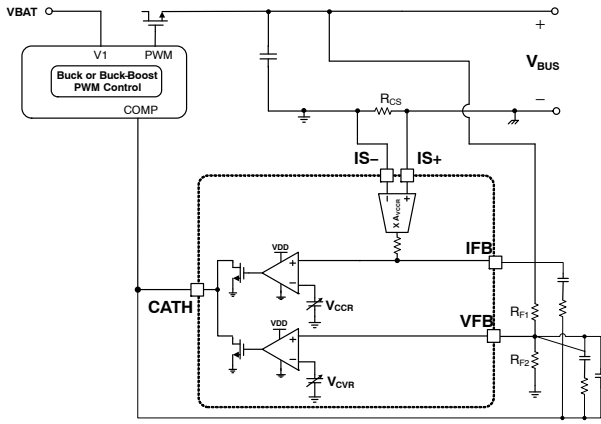

Figure 8. Voltage and Current Sensing Circuits
In order to regulate adaptive output voltages, the constant voltage control (CV) is implemented. The output voltage is sensed through an external resistor divider. The sensed output voltage is connected to the VFB pin, and it is input the non-inverting input terminal of the internal operational amplifier. The inverting input terminal is connected to the internal voltage reference (VCVR) which can be adjusted according to the requested output voltage. The amplifier and an internal switch operate as a shunt regulator, and the output of the shunt regulator is connected to the CATH pin. To compensate output voltage regulation, typically, two capacitors and one resistor are connected between CATH and VFB pins as Figure 8. The output voltage can be derived as calculated by the Equation 1, and the ratio of the resistor divider is 10. The reference (VCVR) for the output voltage is generated by a 10-bit DAC. The minimum resolution is 20 mV to meet PD compliance for PPS.
Constant Current Limit (CL or CC) or control is enabled during USB PD explicit contracts with a PPS APDO. When CL (or CC) mode is enabled, the supply will decrease the output voltage as the load increases in order to maintain a fixed output current. Output current is sensed via a current – sense resistor RCS, which is connected between the IS+ and IS– pins. The sensed signal is internally amplified, and this amplified voltage is connected to the non – inverting input of the internal operational amplifier. Similar to the constant voltage amplifier circuit, it also plays a role as a shunt regulator to regulate the constant output current. In order to compensate output current regulation, one capacitor and one resistor are connected between the IFB and CATH pins as shown in Figure 8. The constant output current can be calculated using Equation 2. 5 mΩ is typically used for the sense resistor.